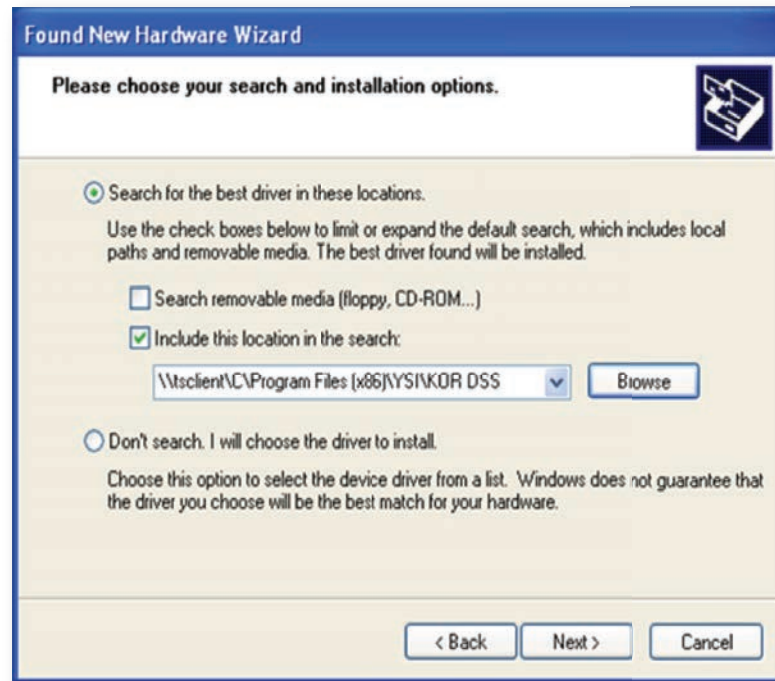

Figure 82 Found New Hardware Wizard file location
4. Select **Search for the best driver in these locations**, then **Include this location in the search:**. Click **Browse**, then navigate to the file location: **C:\Program Files (x86)\YSI\KorDSS** for 64 bit systems or **C:\Program Files\YSI\KorDSS** for 32 bit systems (Figure 82). Click **Next**.